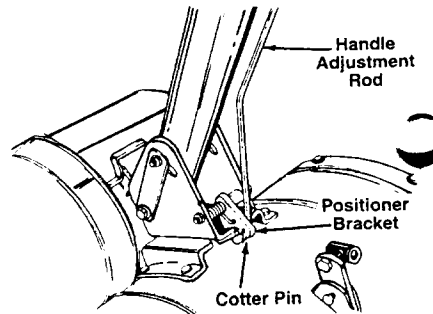

FIGURE 10
- With the handle adjustment rod beneath the handle assembly, insert the hooked end of handle adjustment rod into the positioner bracket as shown in figure 10.